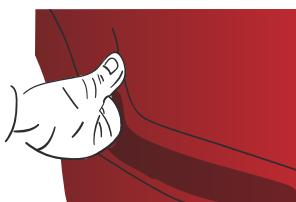

Figure 12
- › Heat to a temperature ranging from 40 °C to 50 °C (from 104 °F to 122 °F) and lower your thumb in the hollow part so as to properly apply the adhesive. (FIG. 12)